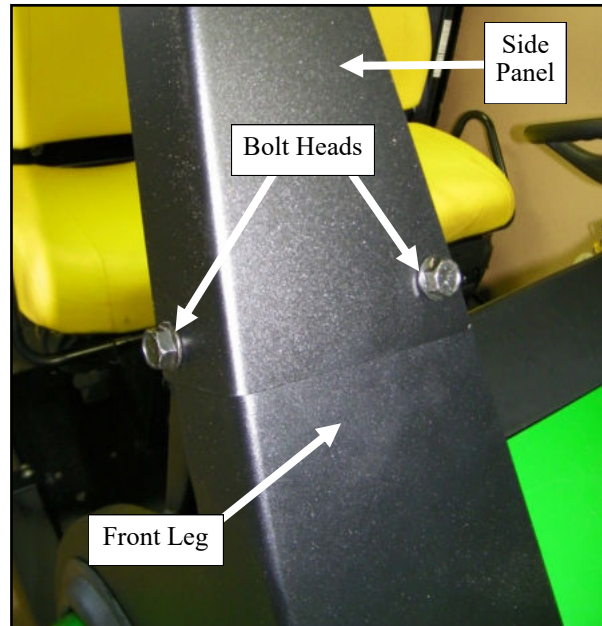

Fig. 5.1 (view of passenger's side)
5.1 Align the front side panel to the front leg, as shown in figure 5.1. Fasten to the front leg using the hardware listed below. **Install finger tight at this time.**